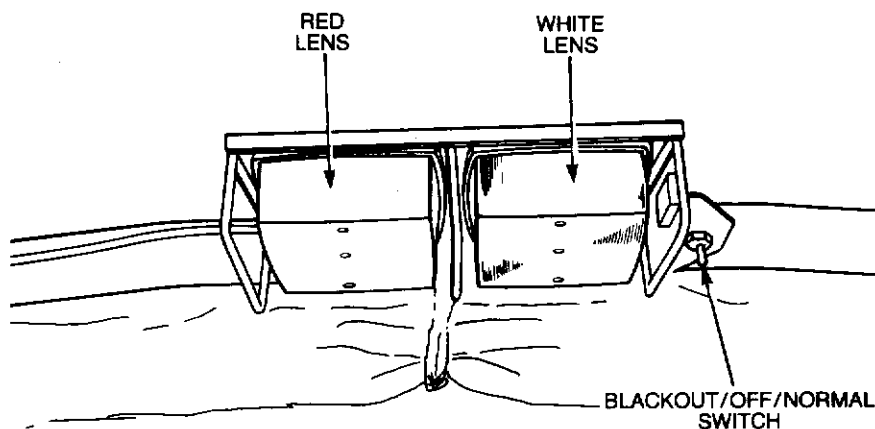

Figure 1-19 Rear dome lights
99. Rear dome lights (Fig. 1-19)